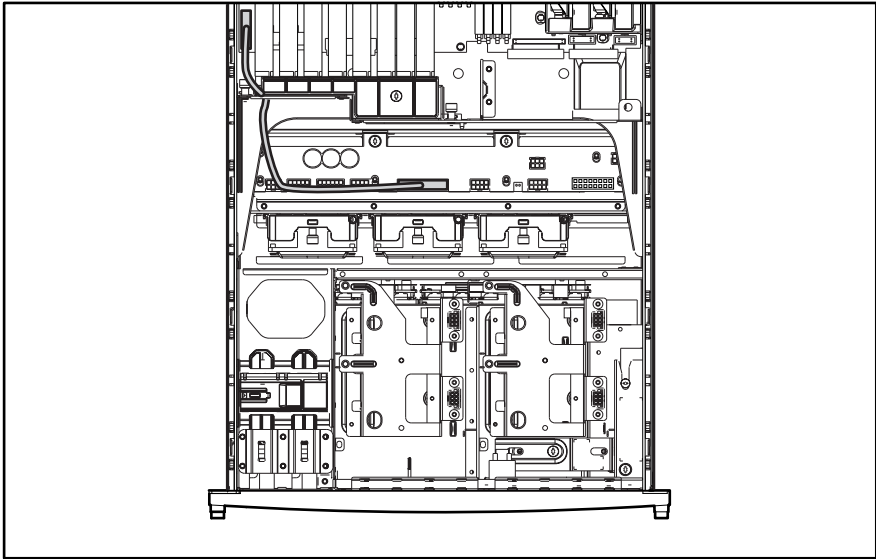

Figure 2-22. System data cable
4. System data cable. See Figure 2-22.